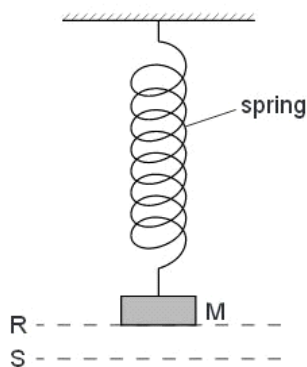

Fig. 6.1
- (b) A spring is attached to a support and hangs vertically, as shown in Fig. 6.1. An object M of mass 0.41 kg is attached to the lower end of the spring. The spring extends until M is at rest at R.
- (c) The object M in Fig. 6.1 is pulled down a further 0.060 m to S and is then released. For M, just as it is released,
- (d) Describe and explain the energy changes from the time the object M in Fig. 6.1 is released to the time it first returns to R.